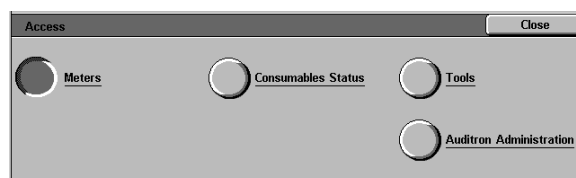

Figure 3: Meters button
- 2 Touch the **Meters** button, Figure 3.